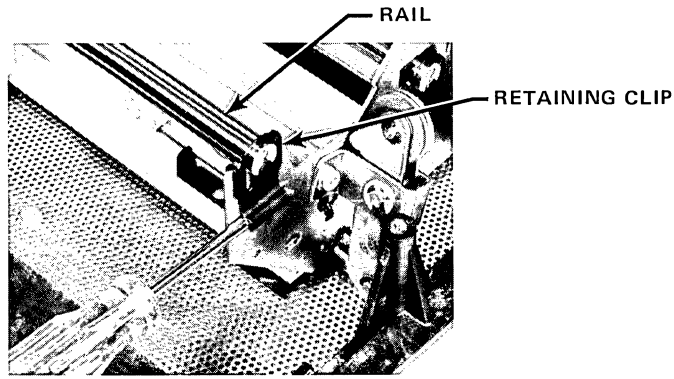

Figure 4-19. RAIL CLIP REMOVAL
- 8) Using a screwdriver or other suitable implement as shown in Figure 4-19, remove the retaining clips (4) from the ends of the two carriage rails. The clip is removed by rotating the screwdriver, not by prying. The shank of the screwdriver must be at least 8" long, and its blade must be narrow enough to insert through the clip but wide enough to force the clip open. (A 3/16" wide blade works well.)